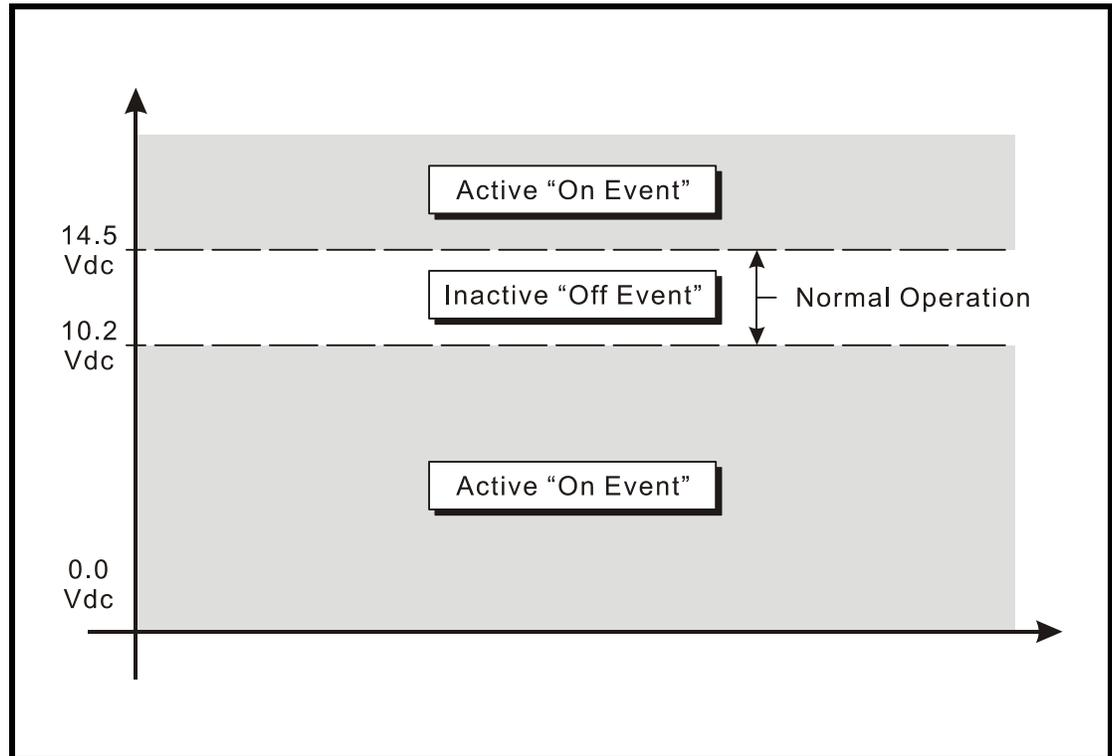

Figure 4 - Analog Input Operating Regions vs. Limit Values
Figure 4 on page 25 illustrates the relationship of the Low and High Limit Values to the Analog Input state. Each region defines the type of Event Record that is created by transitions of the
- **On:** The Digital Input voltage is in the range from 5 to 36Vdc. The Analog Input level is outside the acceptable range as defined by the region between the Limit Values (refer to Figure 4 on page 25). The Virtual Input evaluates to a true logic state.